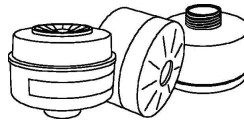

Figure 10
- Honeywell particle, gas and combined filters (Figure 10)